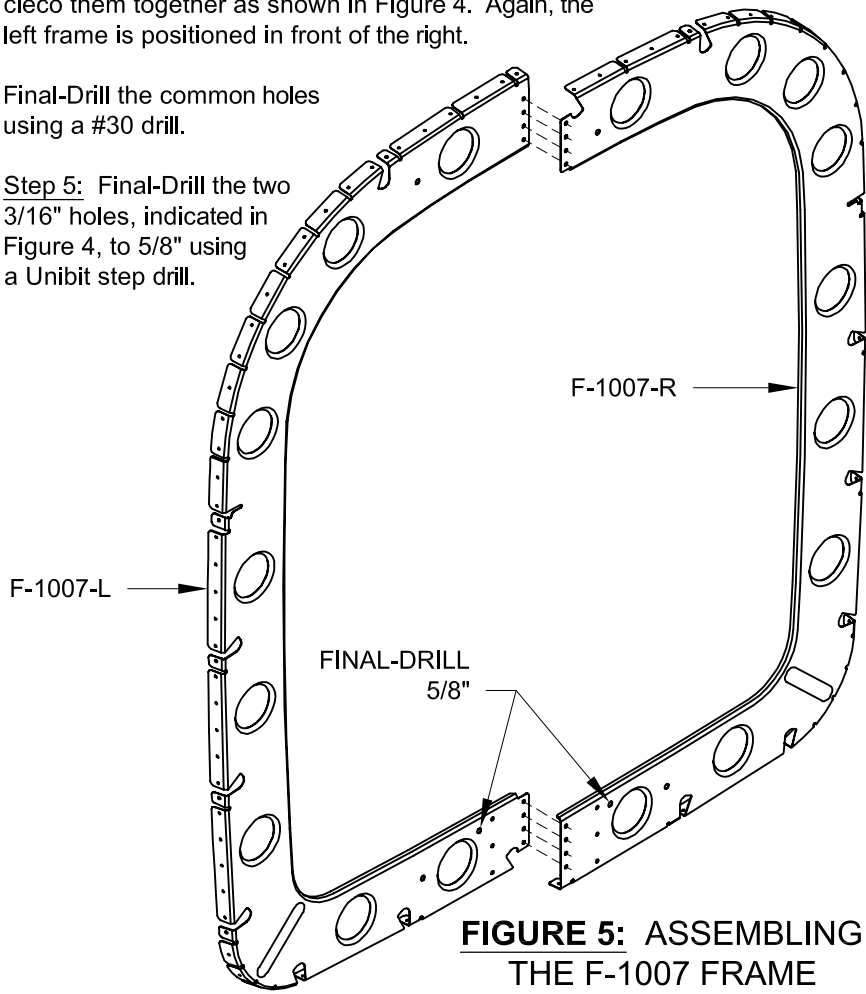

**FIGURE 4: ASSEMBLING THE F-1008 FRAME**
**Step 4:** Deburr and flute the F-1007-L & -R Frames, then cleco them together as shown in Figure 4. Again, the left frame is positioned in front of the right.
**Step 5:** Final-Drill the two 3/16" holes, indicated in Figure 4, to 5/8" using a Unibit step drill.